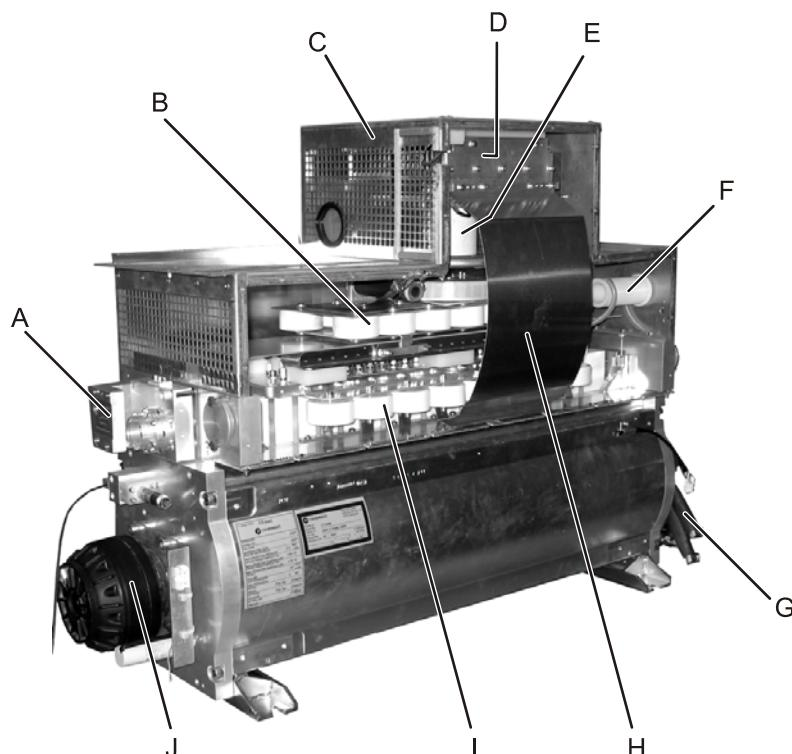

Figure 30: Overview of auxiliary components to be swapped-over
43. Compare the removed laser tube with the replacement laser tube to locate the positions of the components that are to be swapped over (see Figure 30).
Key to Figure 30
44. Use the 3 mm allen key to remove the front thyratron grounding plate (see Figure 30, H) together with the plastic insulation sheet.